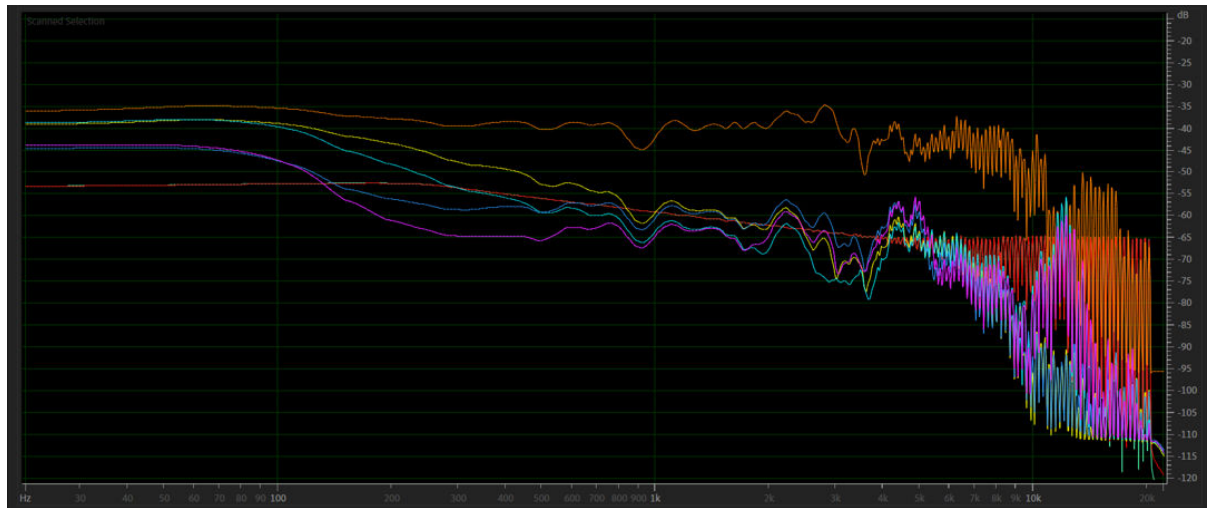

Figure 9-20 Example recording in Mission mode
Figure 9-20 shows an example recording collected in Mission mode.
- NOTE** The colored lines in Figure 9-20 signify: